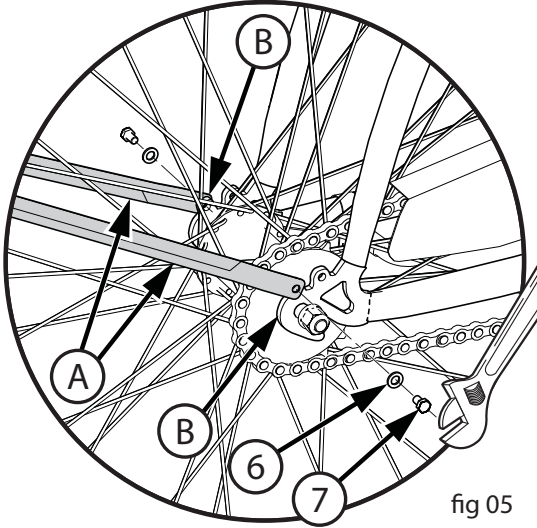

fig 05
1. Line up the Rear Fender Braces (A) with the Frame Mounting Tabs (B) (**fig 05**).
2. Insert each lower mounting Bolt (7) and Washer (6) into the Frame Mounting Tabs (B) and tighten securely. Make sure fender is centered over tire.